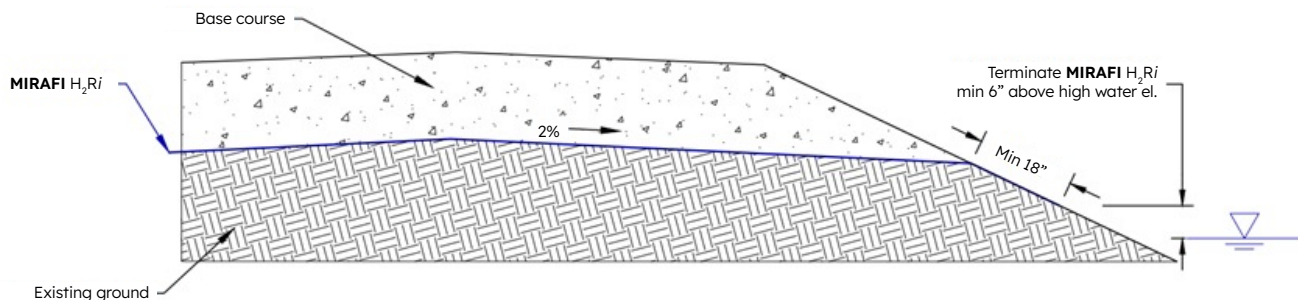

Figure 7: Embankment MIRAFI H₂Ri daylight into ditch detail
3. **Daylighting** – Best for maximum water removal from a cross section. Evaporation at the exterior drives water movement outward from the interior. A directional gradient should be incorporated with this approach in combination with a minimum 18 in (458 mm) draped exposure of **MIRAFI H₂Ri** at the exterior (along the ditch), as shown in Figure 7. If **MIRAFI H₂Ri** is terminated above a shoulder drainage ditch, care and maintenance of the ditch should be maintained to ensure water does not back up to the level of **MIRAFI H₂Ri**. This could include clearing and cleaning of the ditch to ensure proper drainage.